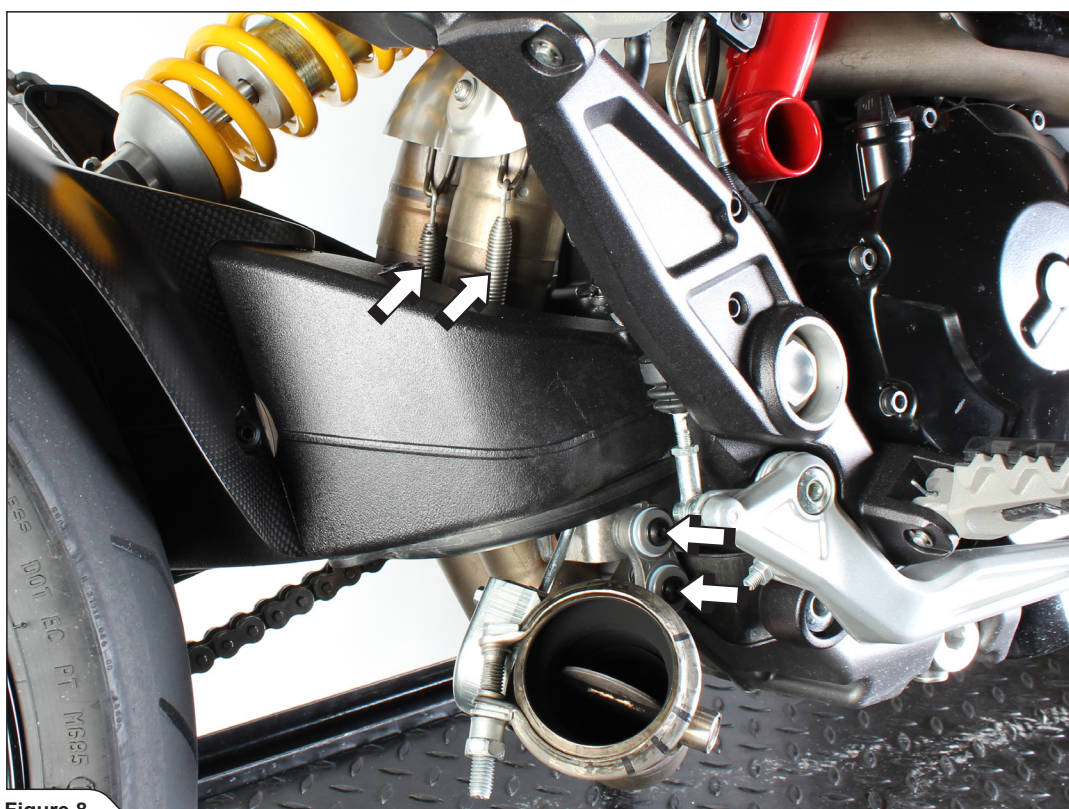

Figure 8
9. Unscrew the marked bolts, remove the link pipe's bracket, undo the marked springs and remove the collector off the motorcycle (**Figure 8**).